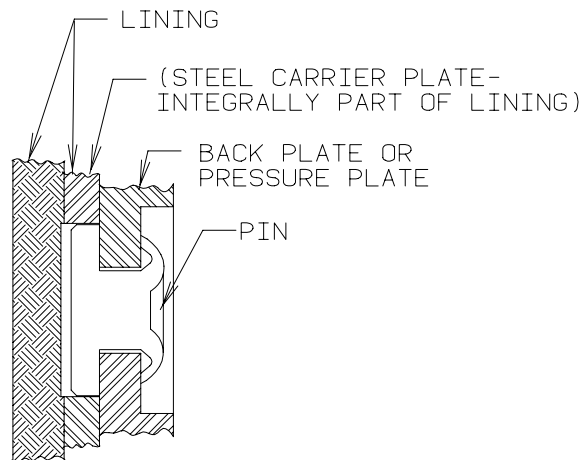

Figure 202 - Pin Installation, Metallic Lining
Metallic or organic linings are used in different brake assemblies. The minimum wear thickness for replacement of metallic and organic linings is 0.100 inch (2.54 mm). Ref. Appendix A, Figure A1. The metallic lining is a sintered metal composition and is attached by torque pins which press fit into the back surface (steel carrier plate) of the lining. The holes for the pins are not visible on the lining surface unless the lining is worn beyond its wear limit. Ref. Figure 202.
- 5 Check lining attachment pins for mushroomed heads or other visible damage. Damaged attachment pins may be replaced by carefully drilling out the pins. Ref. Figure 202 and 204.